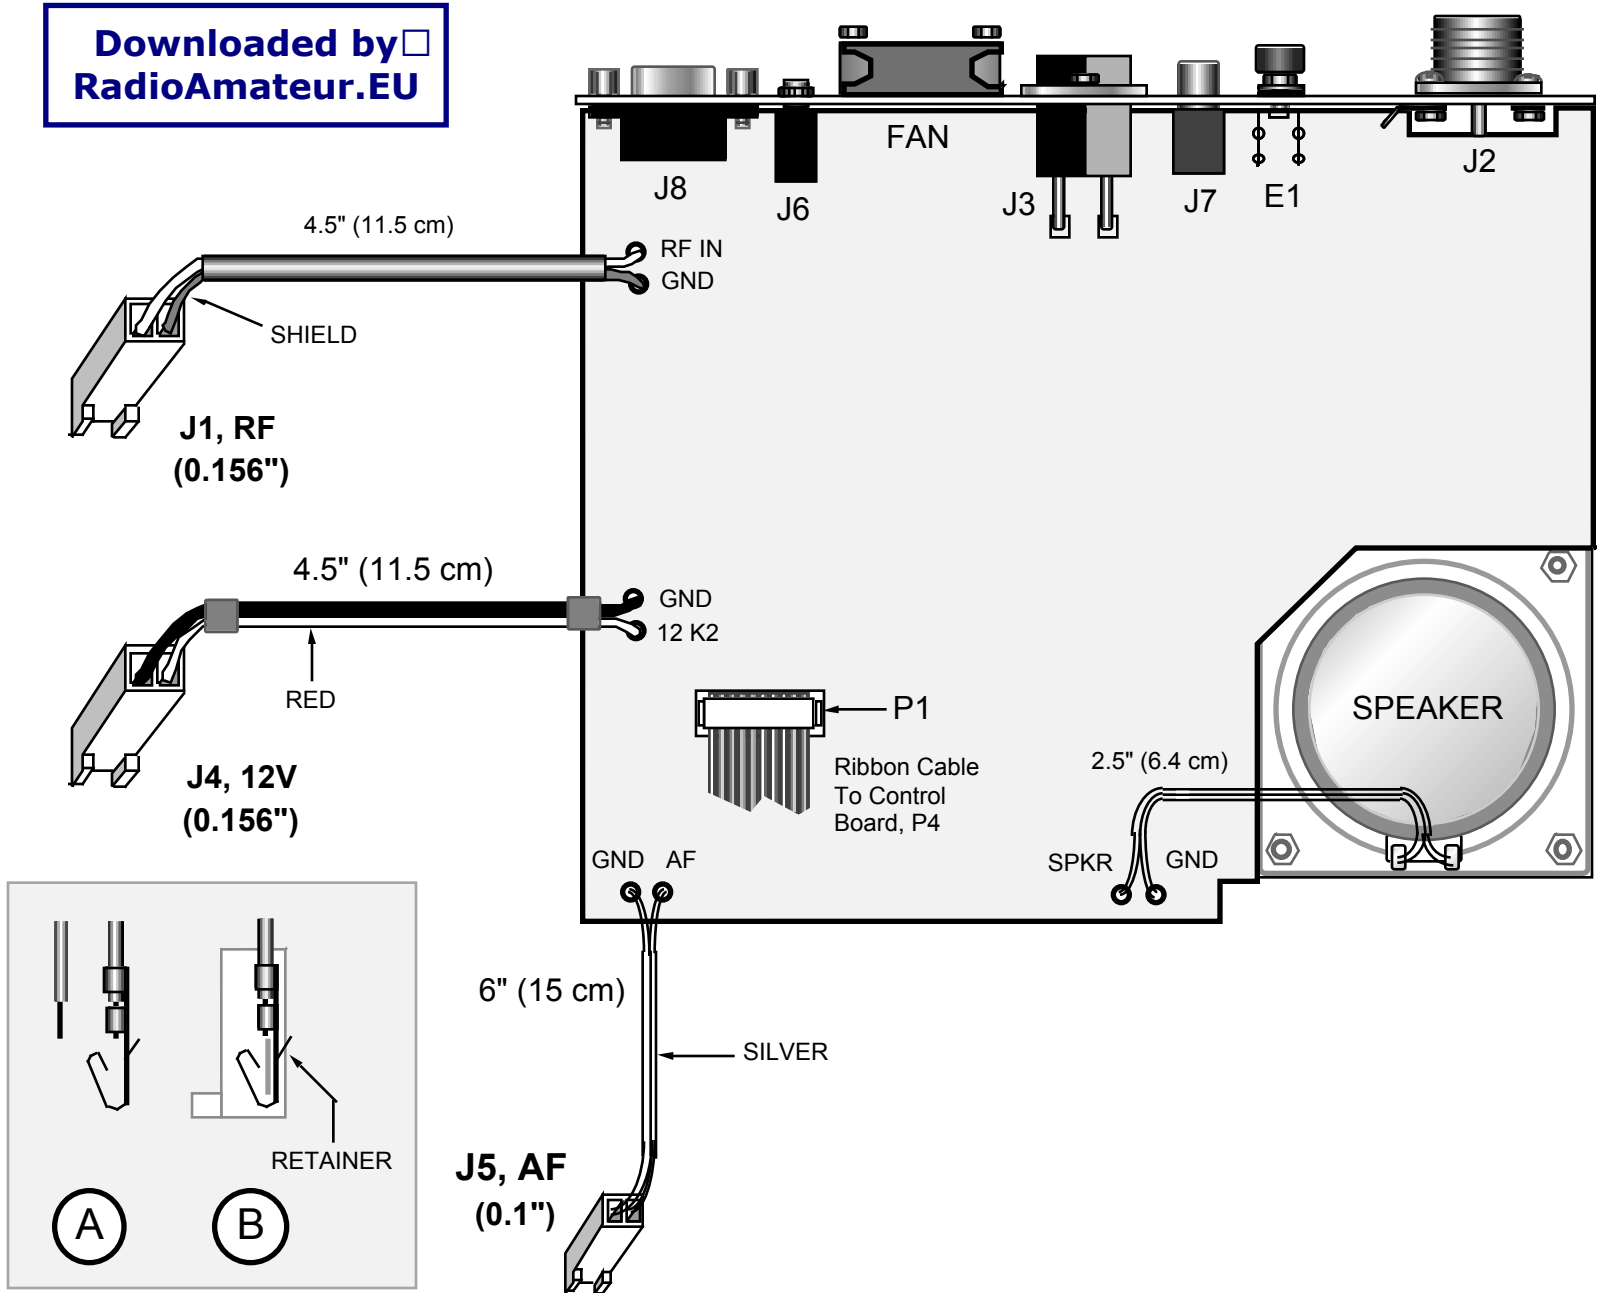
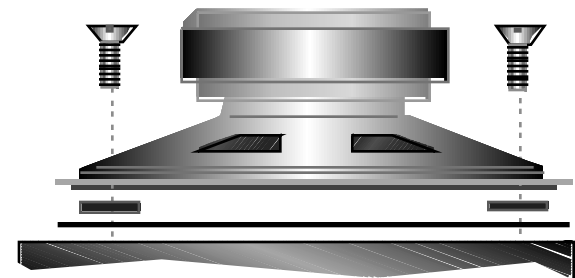

Figure 32
Figure 34
Insert the terminals into a large 2-pin housing as shown in Figure 32 (**black** wire on the left, **red** wire on the right).
- Place the speaker on top of the grille cloth and fibre washers (Figure 34). Align the speaker frame with the front and side edges of the heat sink. **The speaker terminals should face the front, as shown in Figure 32.**
- Secure the speaker using 4-40 x 3/16" (4.8 m) **black, flat head** screws (Figure 34.) Do not use lock washers.